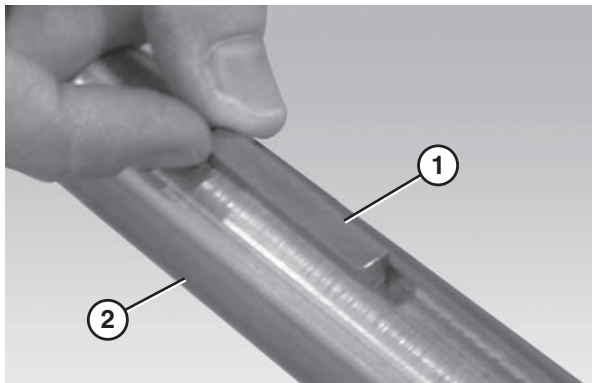

Figure 33
2. Insert the drive spindle key (**Figure 33, item 1**) into the drive spindle keyway (**Figure 33, item 2**).